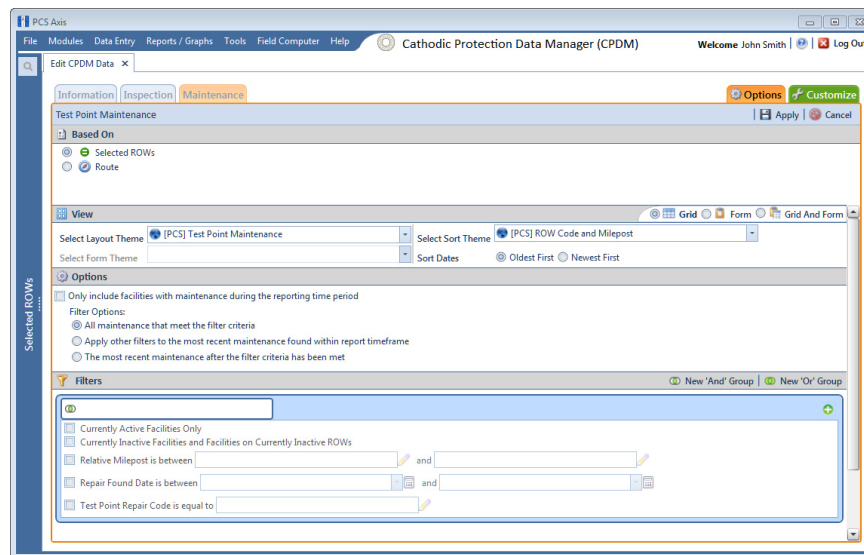

Figure 7-52. Options/Maintenance Grid
- 3 Click the **Options** tab **Options** to open the *Options* page (Figure 7-52).